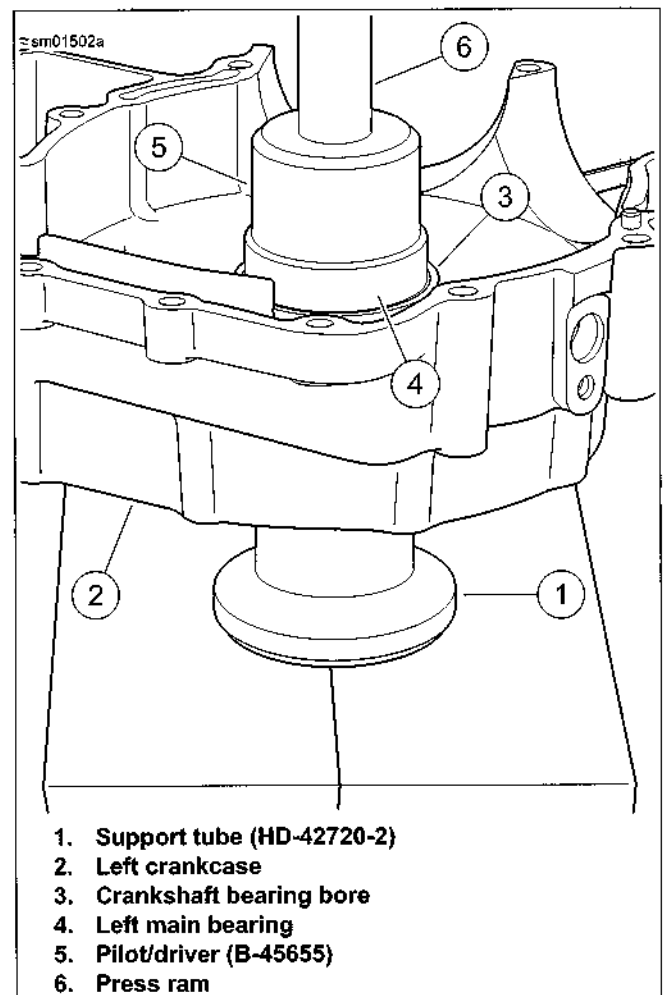
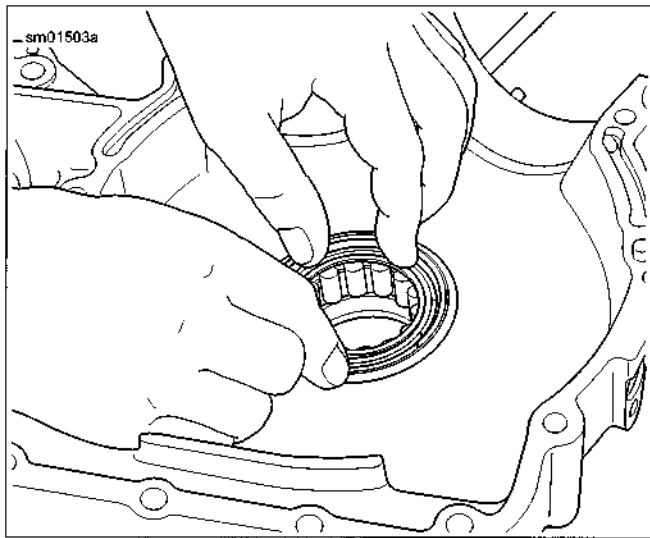

Figure 3-111. Installing Left Main Bearing in Crankcase
Figure 3-112. Installing Left Main Bearing Retaining Ring
1. See Figure 3-111. Using CRANKCASE BEARING REMOVER/INSTALLER (Part No. B-45655) and CRANKCASE BEARING REMOVER/INSTALLER BASE (Part No. HD-42720-2), press left main bearing into the left crankcase.
- a. Place support tube (1) on press bed with recessed cup end facing up.
- b. With the inboard side of the left crankcase (2) facing upward, position crankshaft bearing bore (3) over support tube.
- c. Place left main bearing (4) over bearing bore. Insert pilot/driver (5) through left main bearing, through crankshaft bearing bore and into support tube.
- d. Apply pressure with press ram (6) until left main bearing bottoms out in bearing bore.
2. See Figure 3-112. Install new retaining ring from the inside of the left crankcase.